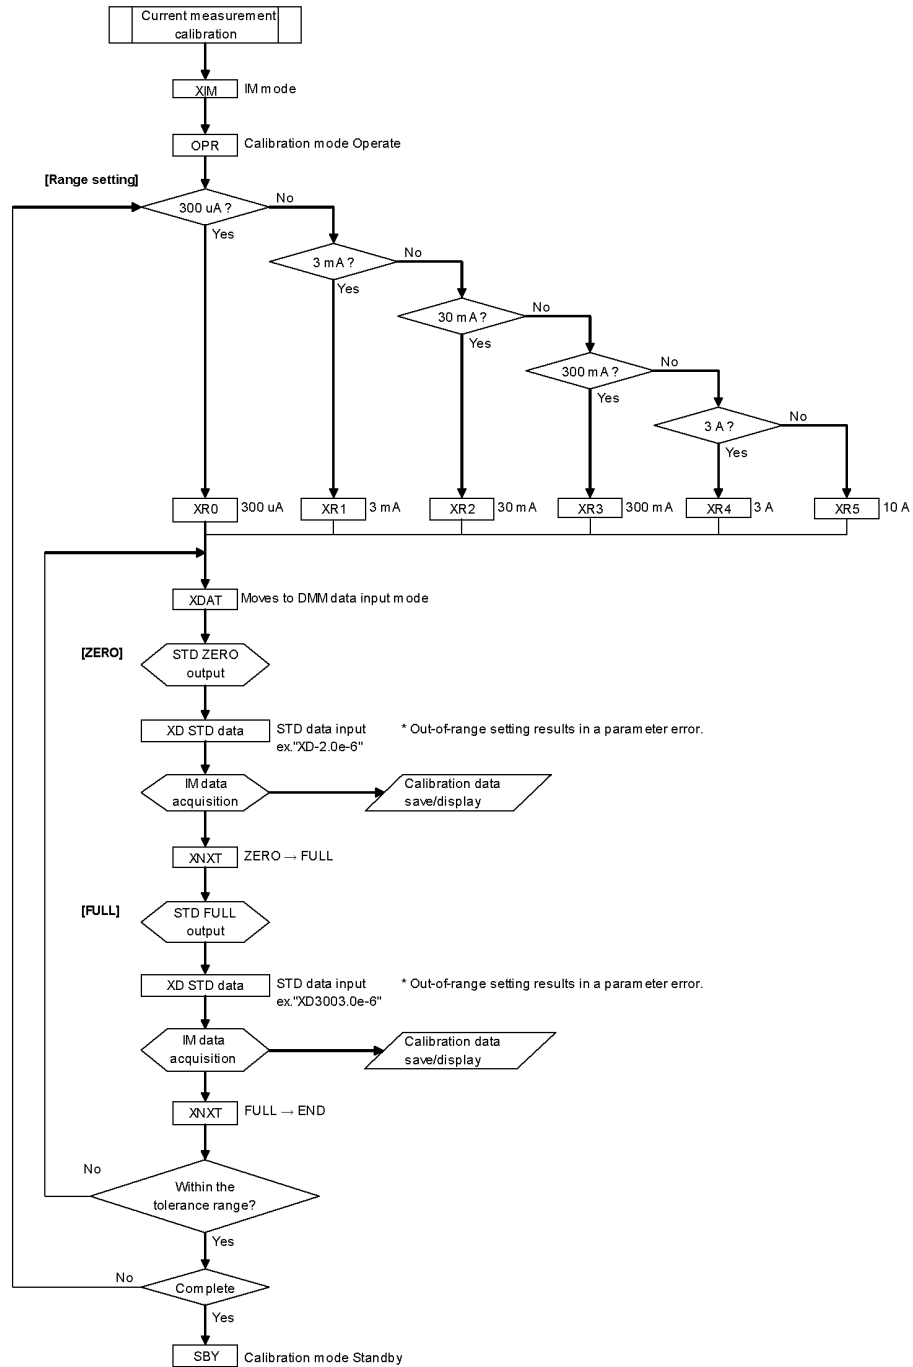

Figure 8-8 Calibration Procedure (4)
The procedure of current measurement calibration is described according to Figure 8-8 Calibration Procedure (4).